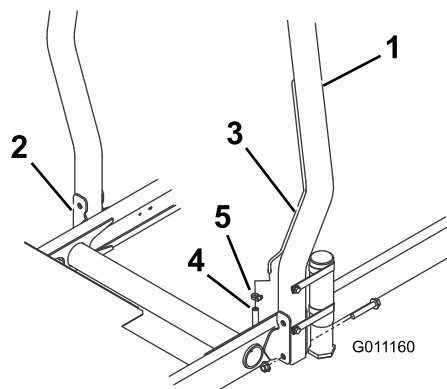

Figure 12
1. Lower the roll bar onto the traction unit mounting brackets, aligning the mounting holes. Ensure that the vent tube on the roll bar is on the left side of the machine (Figure 12).
2. Secure each side of the roll bar to the mounting brackets with 2 flange head bolts and locknuts (Figure 12). Torque the fasteners to 60 ft-lb (81 N-m).